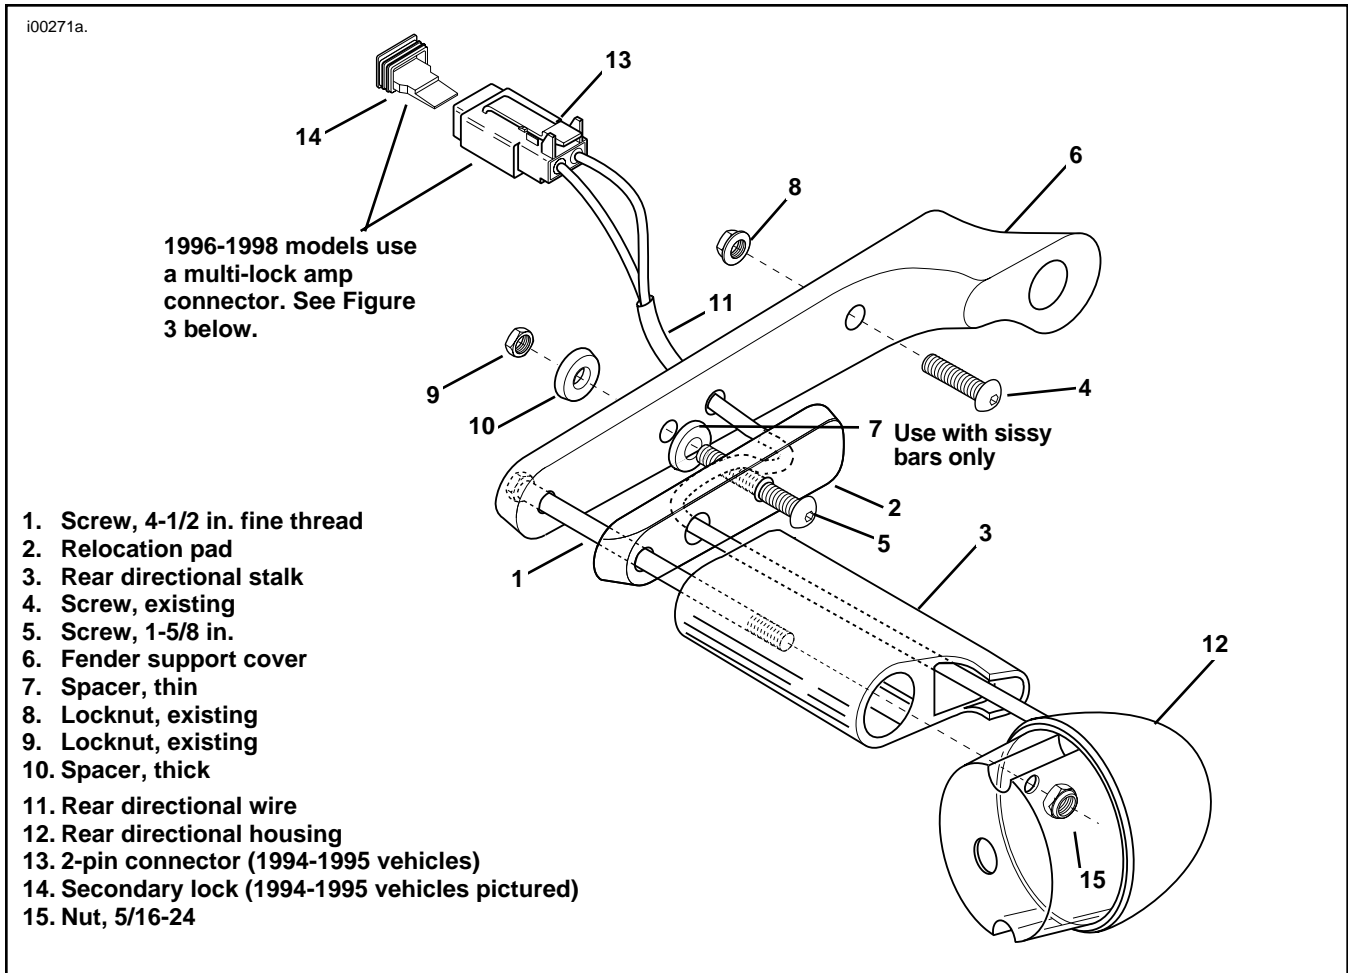
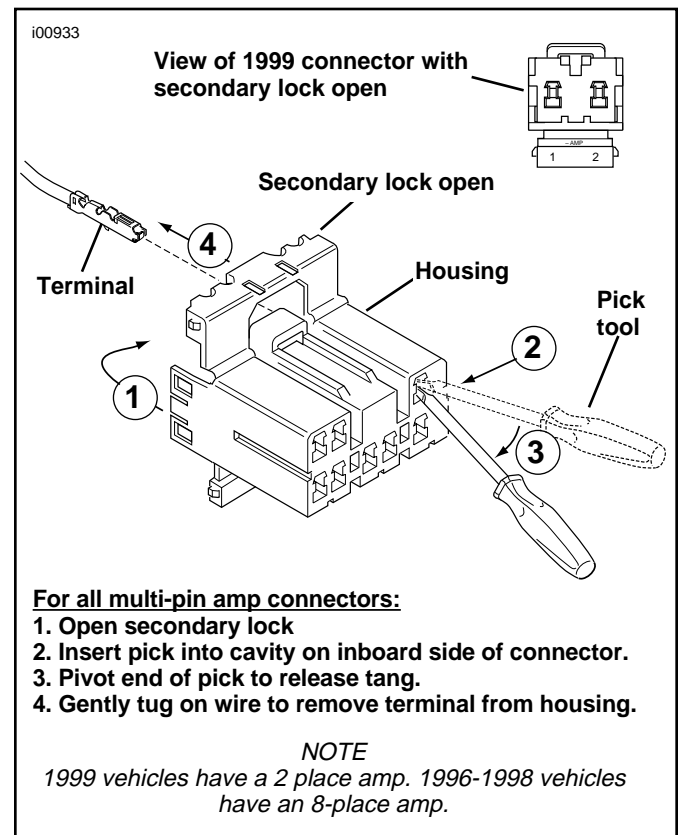

Figure 2. Routing Rear Directional Wires and Installing Relocation Pad on 1994-1997 models
Figure 3. Amp Multilock Electrical Connectors
2. See Figure 2. Disconnect directional electrical system by removing connector from T-stud on frame.
On 1999 models, the multilock amp connector is under the lens plate of the taillight. 1996-1998 vehicles have an 8-place multilock amp connector as shown in Figure 3. 1994-1995 vehicles have a Deutsch connector (13) as shown in Figure 2.
See Figure 3. On 1996-1998 vehicles with multilock amp connectors, remove the connector from the retaining device according to Service Manual instructions:
8. See Figure 2. Using a small piece of tape, tack large spacer (10) from kit onto frame over hole from which rear directional stud was removed.
10. **All 1994-1997 Models Except Hugger.** See Figure 2. Locate 4-1/2 in. rear directional bolt (1) from kit. Insert bolt, from inside of fender, out through rearmost hole in fender frame. Leave loosely in place.
- **On 1994-1997 models**, see Figure 2. Install rear directional with relocation pad and fender support cover onto fender using 4-1/2 in. bolt (1) inserted through rear of fender in Step 10. Tighten bolt until snug.